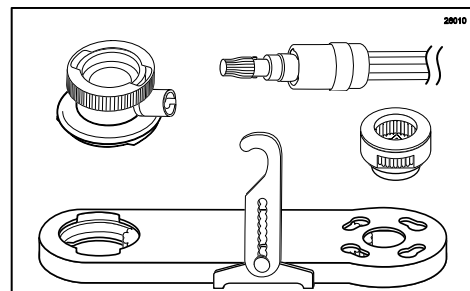

Figure 106
6. Clean the Injector Assembly and other parts for off-season storage according to DAILY CLOSING PROCEDURES and SCHEDULED MAINTENANCE sections. (See Figure 106.)